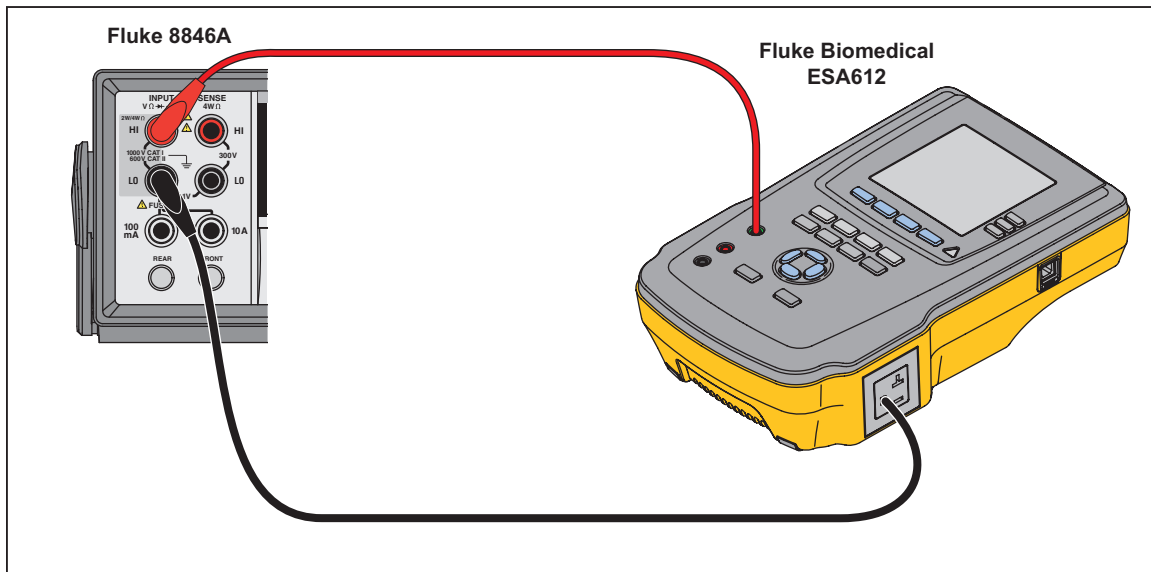

Figure 3-2. Electrical Outlet Ground to NULL Jack Resistance
1. Connect the DMM Input (+) to the NULL Jack and the Input (-) to the EO Ground as shown in Figure 3-2. Select the 1 G $\Omega$  range on the DMM.